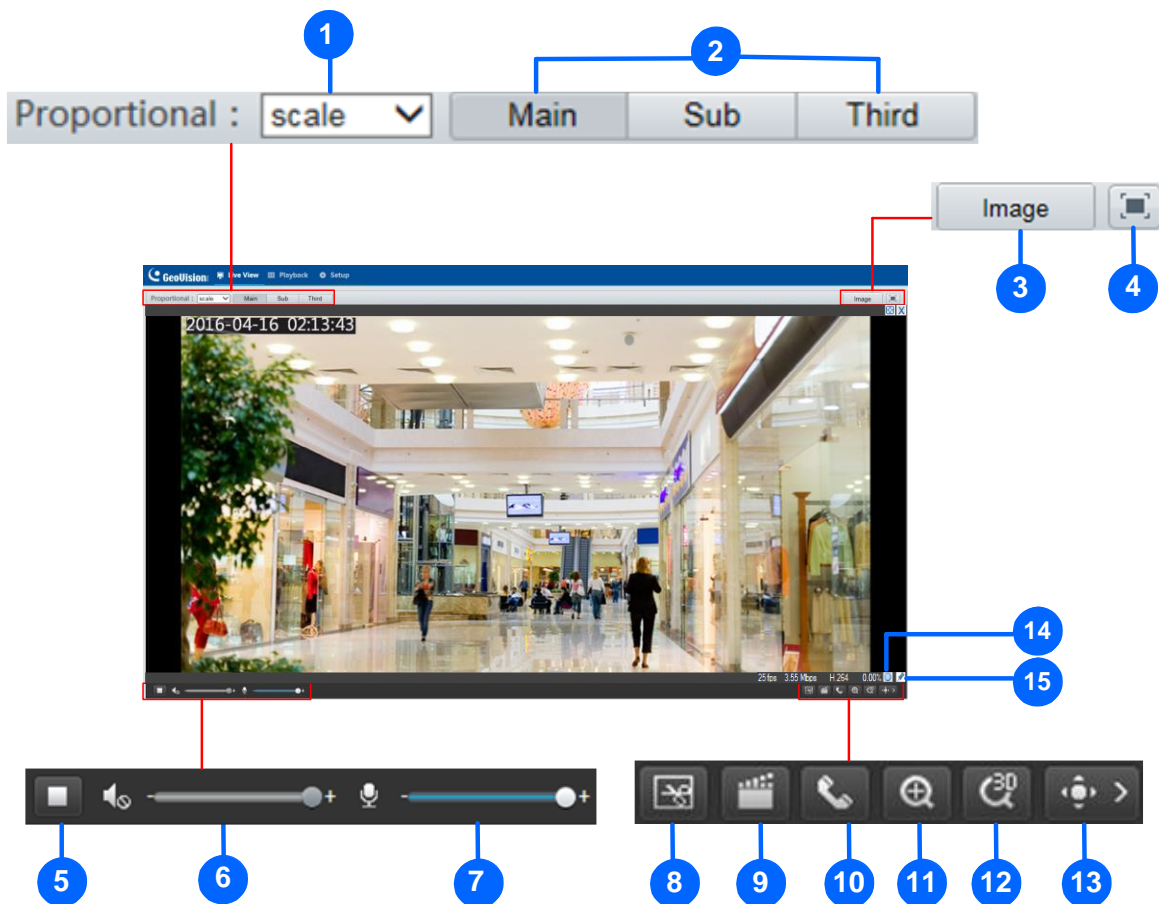

Figure 2-4
For other functions in the live view window, refer to *Figure 2-4*.
1. Click  (No. 11, Figure 2-4) on the toolbar.
4. To exit, click  (No. 11, Figure 2-4) on the toolbar.
1. Click  (No. 12, Figure 2-4) on the toolbar.
4. To exit, click  (No. 12, Figure 2-4) on the toolbar.